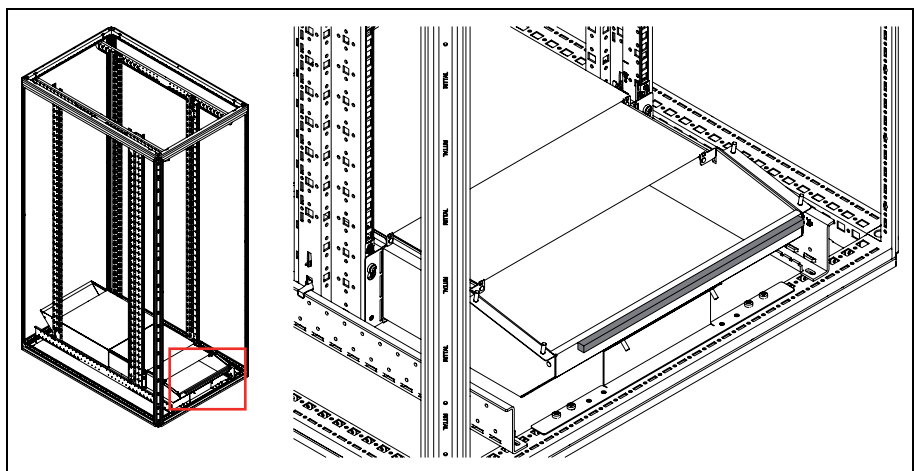

Fig. 20: Attach the sealing strip to the rear air duct tray
- Attach the sealing strip (W10 x H10 x L372 mm) onto the centre of the rear tray of the horizontal air duct part (fig. 20).